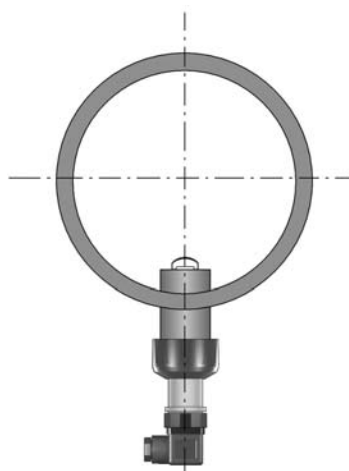

Fig. 1
- Fig.1: installation with no sediments present